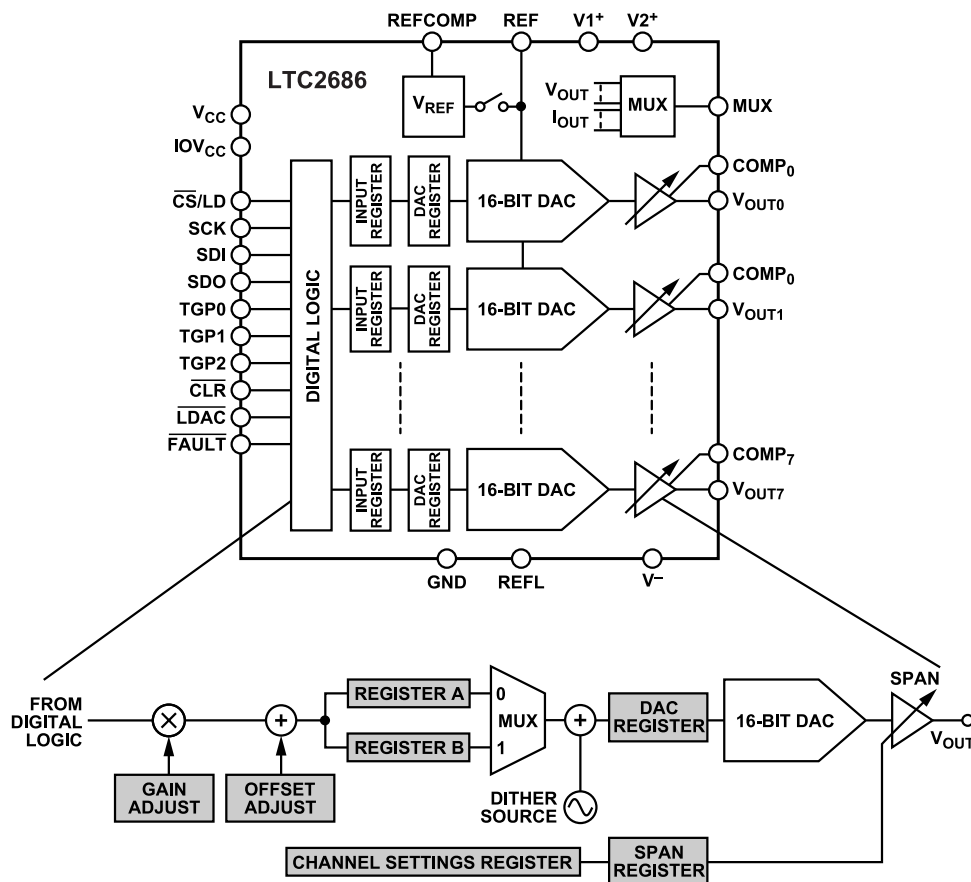

Figure 42. Block Diagram
- ▶ Input register: the write operation shifts data from the SDI pin into a chosen input register. The input registers are holding buffers. Write operations do not affect the DAC outputs directly. In the code datapath there are two input registers, A and B, for each DAC register. Input Register B is an alternate input register used only in toggle and dither operation, whereas Input Register A is the default input register (see Figure 42).
- ▶ DAC register: the update operation copies the contents of an input register to its associated DAC register. The content of a DAC register directly controls the DAC output voltage or range. The update operation also powers up the selected DAC if it was in power-down mode. The data path and registers are shown in Figure 42. Updates always refresh both code and span data, but the values held in the DAC registers remain unchanged unless the associated input register values have been changed via a write operation. For example, writing a new code and updating the channel updates the code, but the span is unchanged. A channel update can come from a serial update command, an LDAC negative pulse, or a toggle operation.